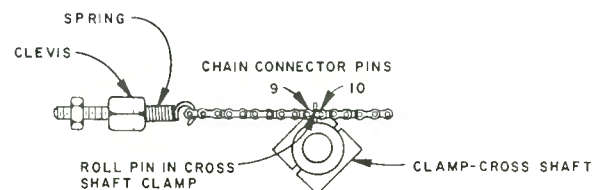

Figure 3-2
1. Check to see if the steel roll pin protruding from the cross shaft clamp is inserted between the 9th and 10th connector pins in the linkage chain, counting from the retaining spring. See Figure 3-2.